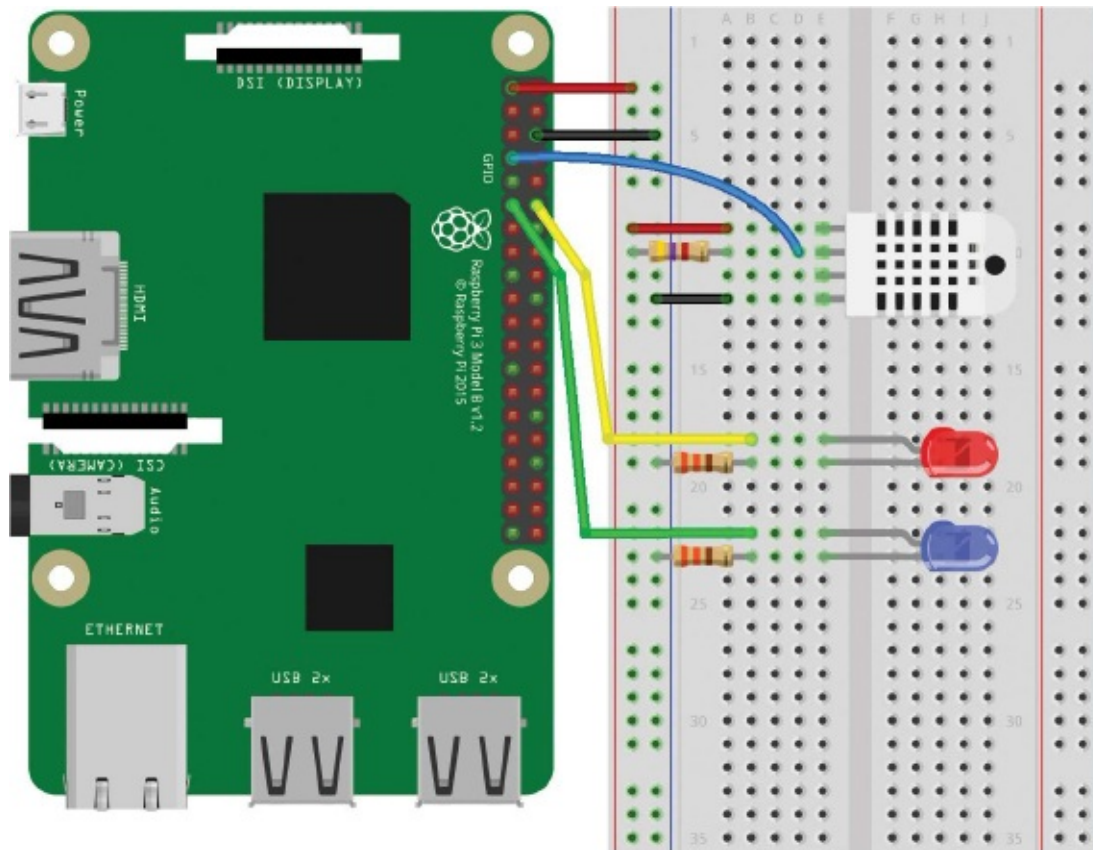

FIGURE 17-4: Wiring the DHT22 and two LEDs to the Pi
3. Insert the DHT22 into the breadboard (with the raised side facing you) and wire it according to the following table. Your completed circuit should match Figure 17-4.